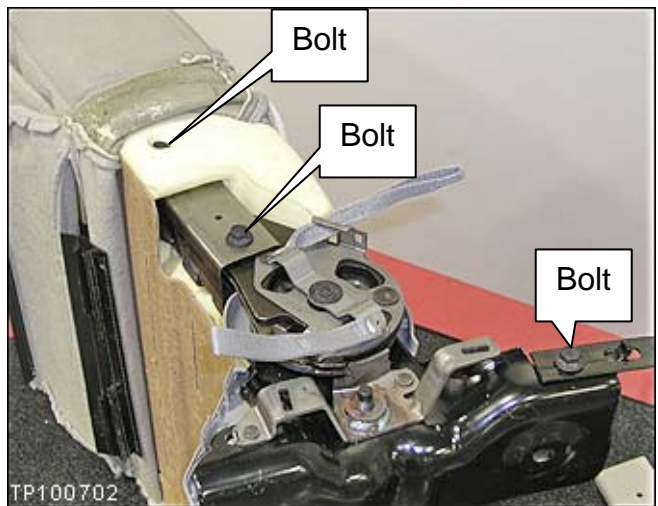

Figure 14
12. Remove the 3 seat latch assembly bolts shown in Figure 14.